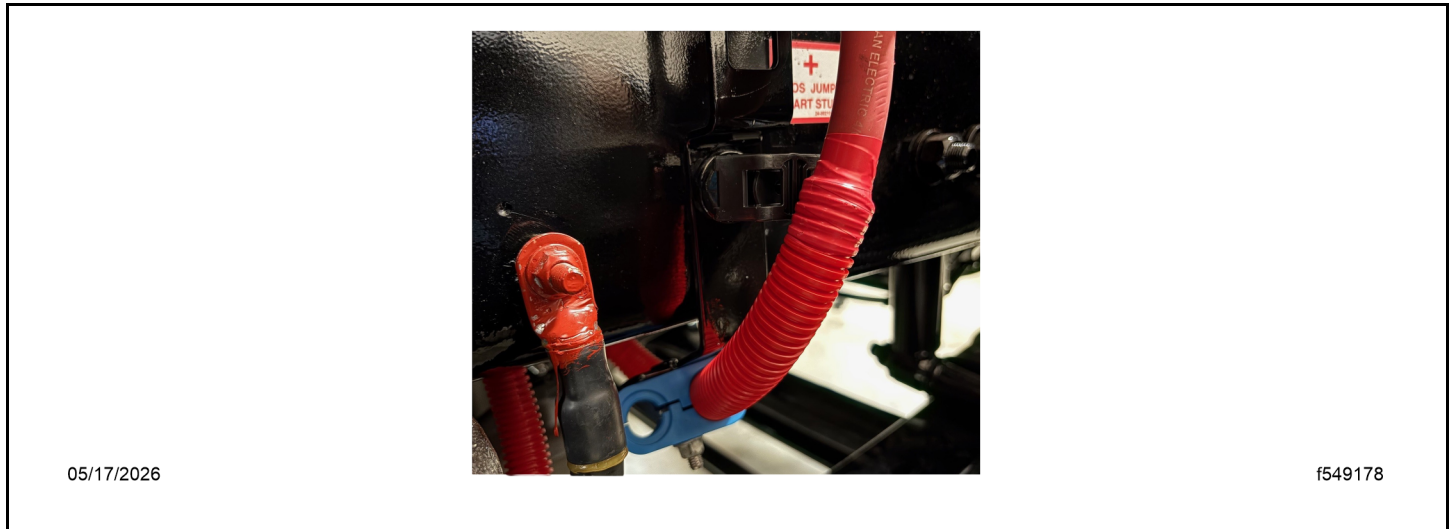

Fig 109, Routing Over the Tie Block
28. Install the 5/8 inch (16 mm) tie block (23-13805-062) on the bottom isolator bracket frame bolt so the cable routing can be set passing by it. See Fig. Fig. 109.